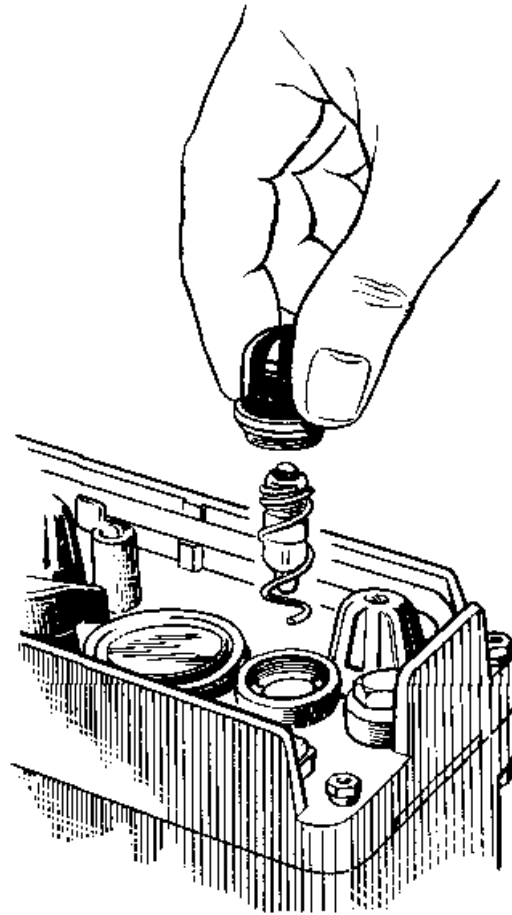

FIG. 33 - REPLACEMENT OF PILOT LAMP
- (b) Remove the defective lamp and coil spring (See Fig. 33).